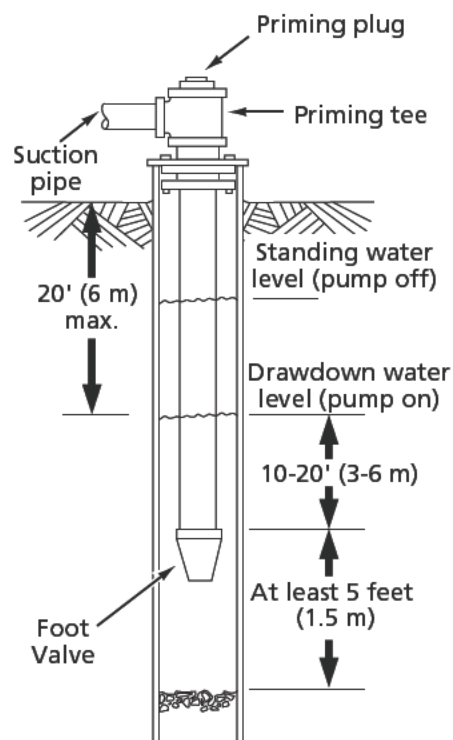

Figure 1 - Cased/Dug Well Installation
- Step 5. When using foot valve, a priming tee and plug are recommended. (Fig. 1).
NOTICE For long horizontal pipe runs, install a priming tee between check valve and well head (Fig. 1). For driven point installations, install check valve. Be sure that check valve flow arrow points **toward** pump.